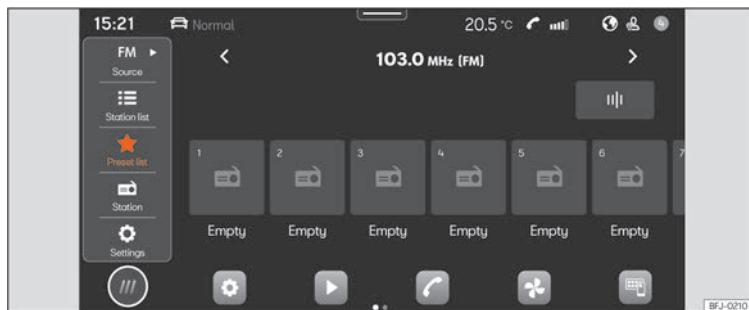

Fig. 157 Schematic representation: Radio view
- Press **HOME** > >>> **Fig. 157**.